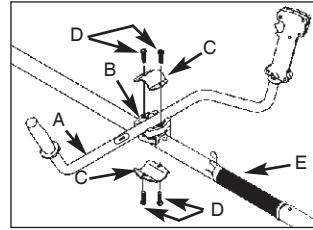

Fig. 1C
1. To install handle onto unit, you will need the following components from your user kit: “Bike” handle (A), fixing holder (B), clamp (C) and screws (D). (Fig. 1C)
2. Install the fixing holder (B) before the sponge sleeve (E), and adjust it to a proper position.